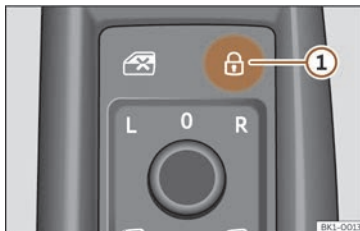

Fig. 63 On the driver's door: central locking switch
- Lock: press the  button >>> **Fig. 63**.
- Unlock: Press the  button again >>> **Fig. 63**.